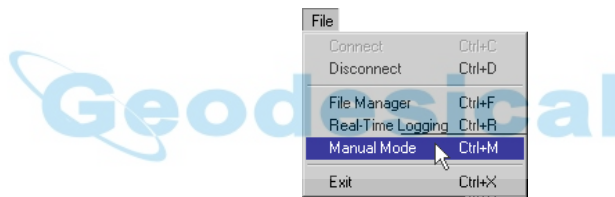

Figure 2-29. File->Manual Mode
2. Start PCView on your computer. Once a connection between the receiver and computer has been established, change PCView to **Manual Mode** (Figure 2-29).